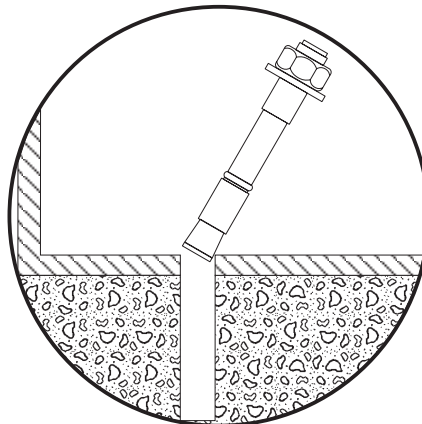

Figure 3
6. Remove tag from assembled anchor, insert into drilled hole and tap down until washer and bolt head are seated against casting. See Figure 3.